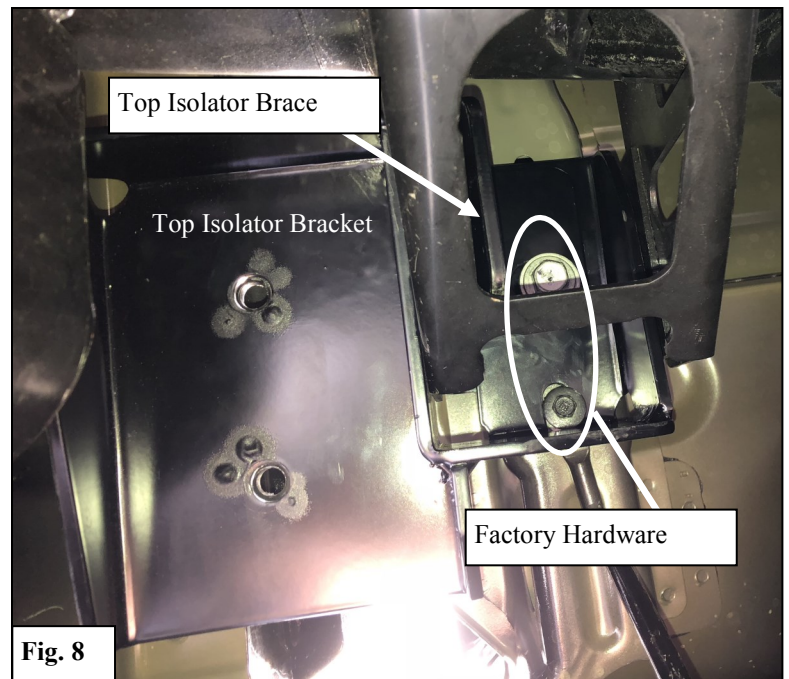

Fig. 8
6. At the front passenger mounting location, loosely install Mounting Bracket B (3) with preassembled Mounting Bracket Base (8). **Note:** Installation is similar to Mounting Bracket A.
7. Repeat **Steps 4-7** on the driver side of the vehicle. **Note:** Driver Front will receive Mounting Bracket A (2) rather than B.
8. Moving to the rear-most location, install the Top Isolator Bracket (5), Top Isolator Brace (6), and Bottom Isolator Bracket (7) along with the Isolator Kit (9). See **Figures 8 & 9**. You will need to first remove the bolt in the bed as shown in **Figure**